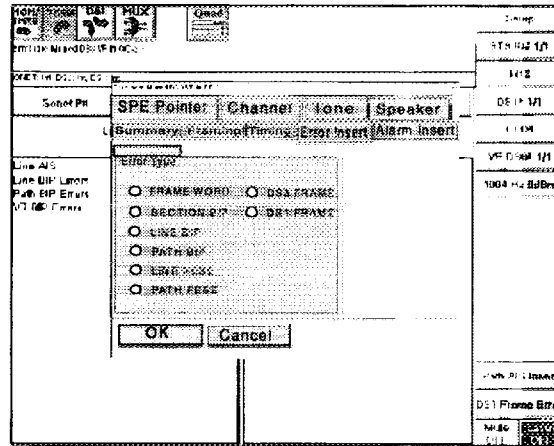

Figure 2-11. Tabulated Property Sheets for Test Setup
- By pressing any of the tabs, you can immediately bring up the desired screen to set parameters. To change a parameter, press or click on the appropriate tab folder to move it to the front. Set the desired parameters accordingly. Figure 2-11 shows how Step 1 through Step 3 could look for a possible test setup using the Tabulated Property Sheets.